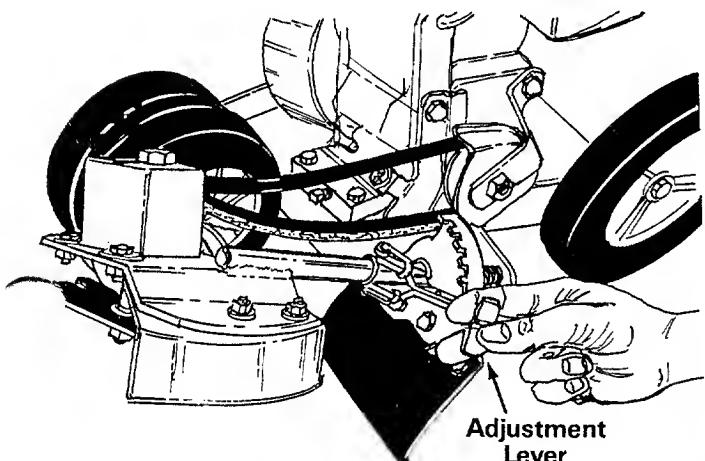
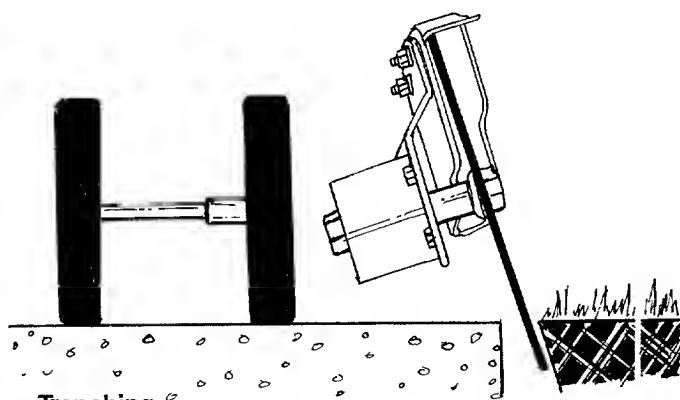

FIGURE 13
FIGURE 17
The cutting blade can be adjusted to eight positions from vertical to horizontal. To adjust, release the adjustment lever on the pivot bracket and rotate the handle housing. Place adjustment lever in notch desired. See figure 13.
- Set the adjustment lever (refer to figure 13) in the first notch at the top for trenching. See figure 17.